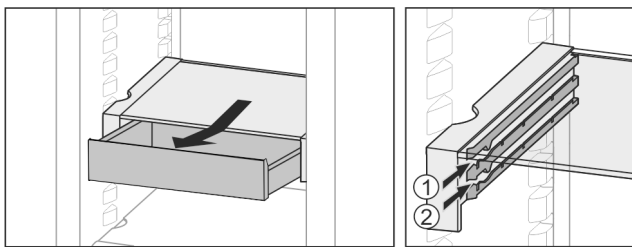

Fig. 36
- Slide back at the height you want Fig. 36 (1) or Fig. 36 (2).